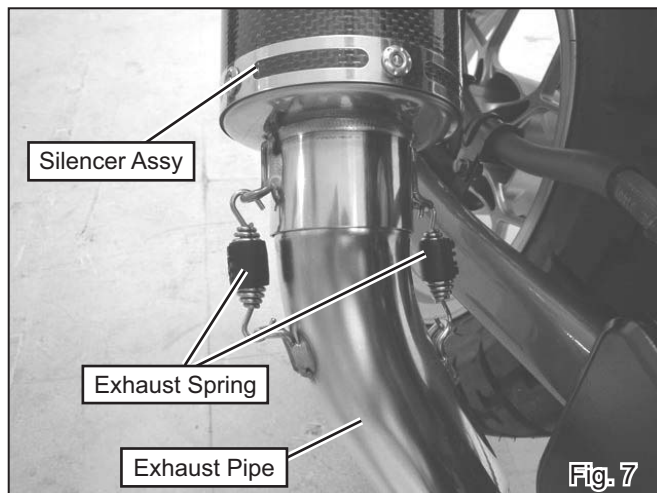

Fig. 7
- 6) Install Silencer Assy to Exhaust Pipe and fix them with 2 of Exhaust Spring (See Fig. 7).